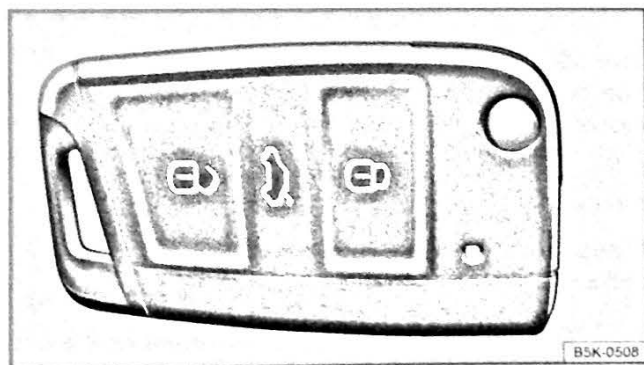
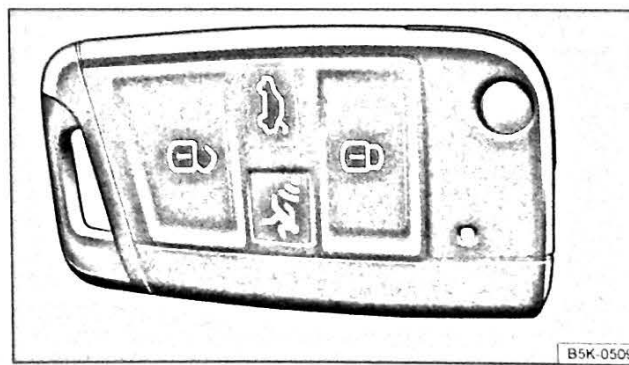
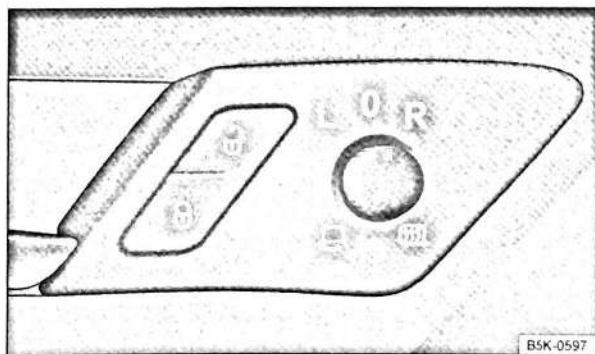

Fig. 27 Buttons on the vehicle key
Fig. 28 Vehicle key with alarm button ▶
Fig. 29 In the driver door: central locking button
The vehicle may lock itself automatically at speeds of approximately 15 km/h (10 mph) and above ⇒ page 31. The indicator lamp  in the central locking button will light up yellow when the vehicle is locked ⇒ Fig. 29.
i If the buttons on the vehicle key ⇒ Fig. 27 or ⇒ Fig. 28 or one of the central locking buttons ⇒ Fig. 29 are pressed repeatedly within a short period of time, the central locking system will switch
Function	Buttons to be used on the vehicle key $\Rightarrow$ Fig. 27 or $\Rightarrow$ Fig. 28
Press the button $\Rightarrow$ Fig. 29:
- The indicator lamp  in the button $\Rightarrow$ Fig. 29 lights up yellow when all doors and the tailgate are closed and locked.
- The  button is pressed ⇒ Fig. 29.